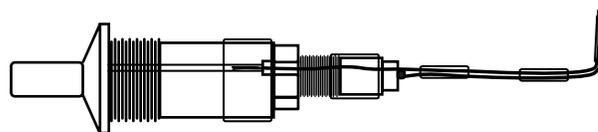

Figure 5.
5. Cut the insulated ends of the two pieces of wire so they are the same length. Tape the insulated ends together so there is only a small "spark gap" between the wires (Figure 5). This is the sparking portion of the modified igniter.